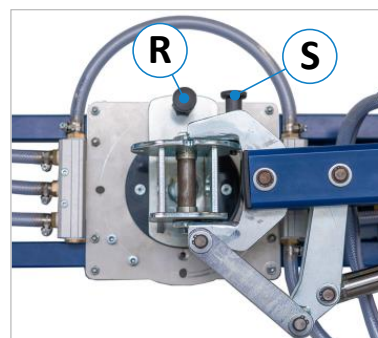

Figure 13: Locking bolts
To rotate or swivel the clamping platform, first activate the two rear wheel brakes. For adjustment, the corresponding locking bolt (R) or (S) must be unlocked by pulling it out (see ⇒ Figure 13).